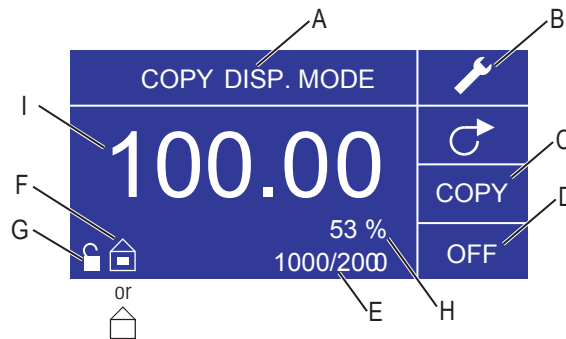

Figure 3-6. Copy Dispense Mode Screen
7. **Setting Batch Size:** Use the directional pad and ENTER key to select the Batch Count icon from the operation screen (see position F, Figure 3-6). From Batch Count screen use the UP/DOWN arrows to select batch size. Press ENTER to validate batch size. When set to zero (0) the drive will run for an infinite number of cycles and the ` symbol is displayed. Select EXIT to return to the Copy Dispense Mode screen.
9. **Reset Batch Count:** Use the directional pad and the ENTER key to select the BATCH COUNT icon (see position F, Figure 3-6). In the BATCH COUNT screen, select RESET and press the ENTER key to reset the batch count. Select EXIT to return to the Copy Mode Operation screen.